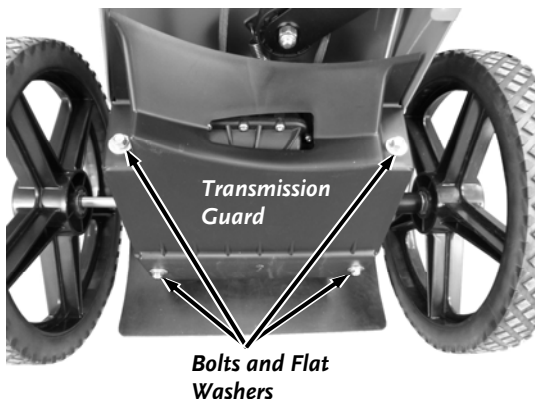

Figure 27
4. Remove the four Transmission Cover Bolts and Flat Washers with a 3/8" Wrench (**Figure 27**). Remove the Transmission Cover.
14. Install the Transmission Cover and secure with the four Transmission Cover Bolts and Flat Washers using a 3/8" Wrench (**Figure 27**).